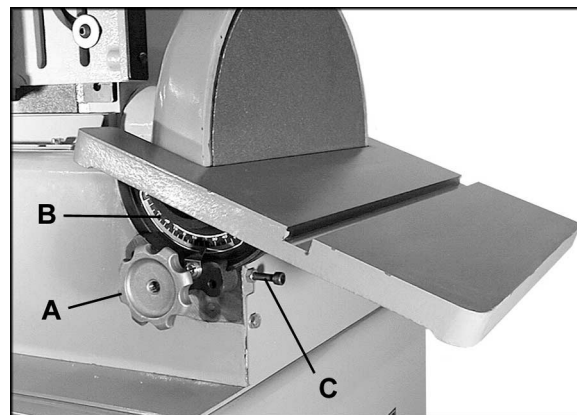

Figure 14
Refer to Figures 14 and 15:
- internal threads of table locking wheels (A, Figure 14)